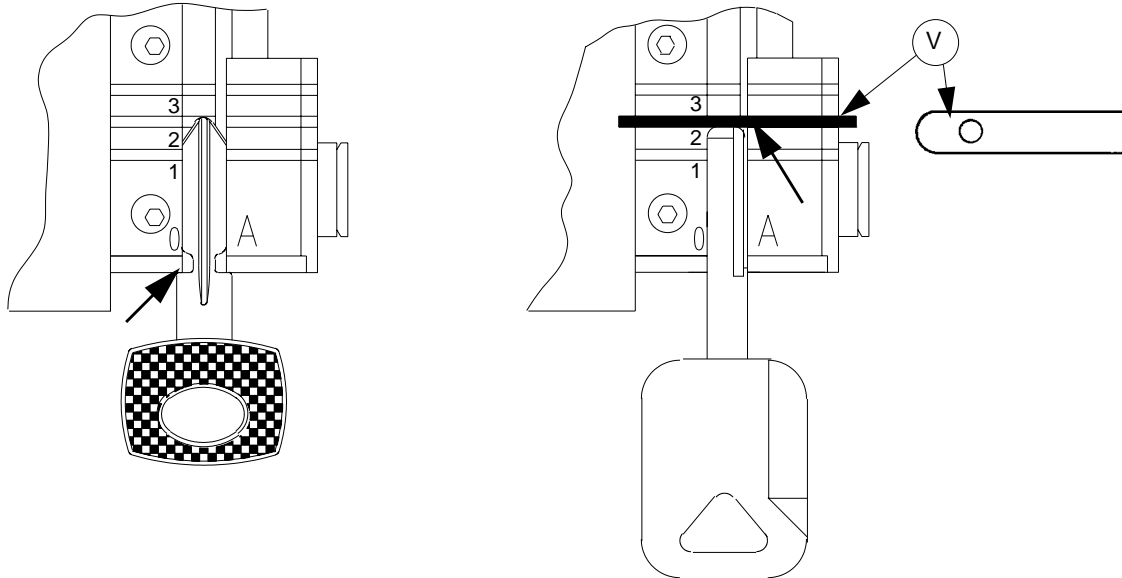

Fig. 19
The former type (with shoulders) are placed in the jaw with the stop against the clamp (stop "0") (fig. 19). The latter (without shoulders) are placed in position on one of the grooves (1 - 2 - 3), as shown on the display, according to the key involved.
A bar (V) (fig. 19) is also provided with the clamp to serve as a stop for the key tip.
Raise the protective shield and place the key all the way into the clamp (fig. 19, page 21).